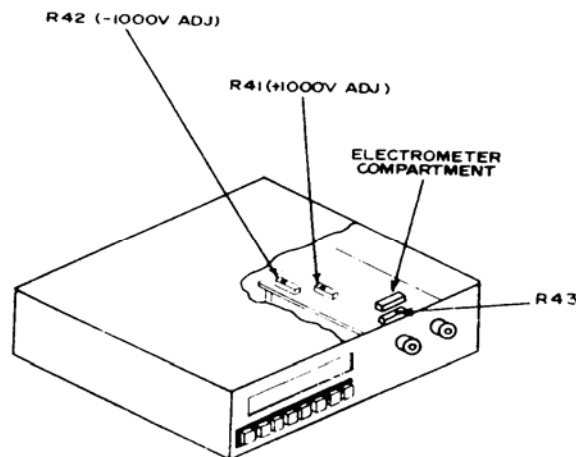

Figure 2. High resistance standard-top interior view.
(1) Adjust **ZERO** control until multimeter indicates 0 V.
(2) Set **TEST VOLTS** switch to **1000** and adjust R41 (fig. 2) for a +1000 V indication on multimeter (R).
(3) Set **TEST VOLTS** switch to **1000** and adjust R42 (fig. 2) for a -1000 V indication on multimeter (R).
- (1) Adjust **CAL** (front panel) control for TI indication of measured resistance value for terminals 1 and 11 (100 MΩ) recorded in **a** (1) above at 1 V and **RATE 10**.
- (2) Release all **RATE** pushbuttons. Adjust R43 (fig. 2) for TI indication equal to value recorded in **a** (1) above (R).